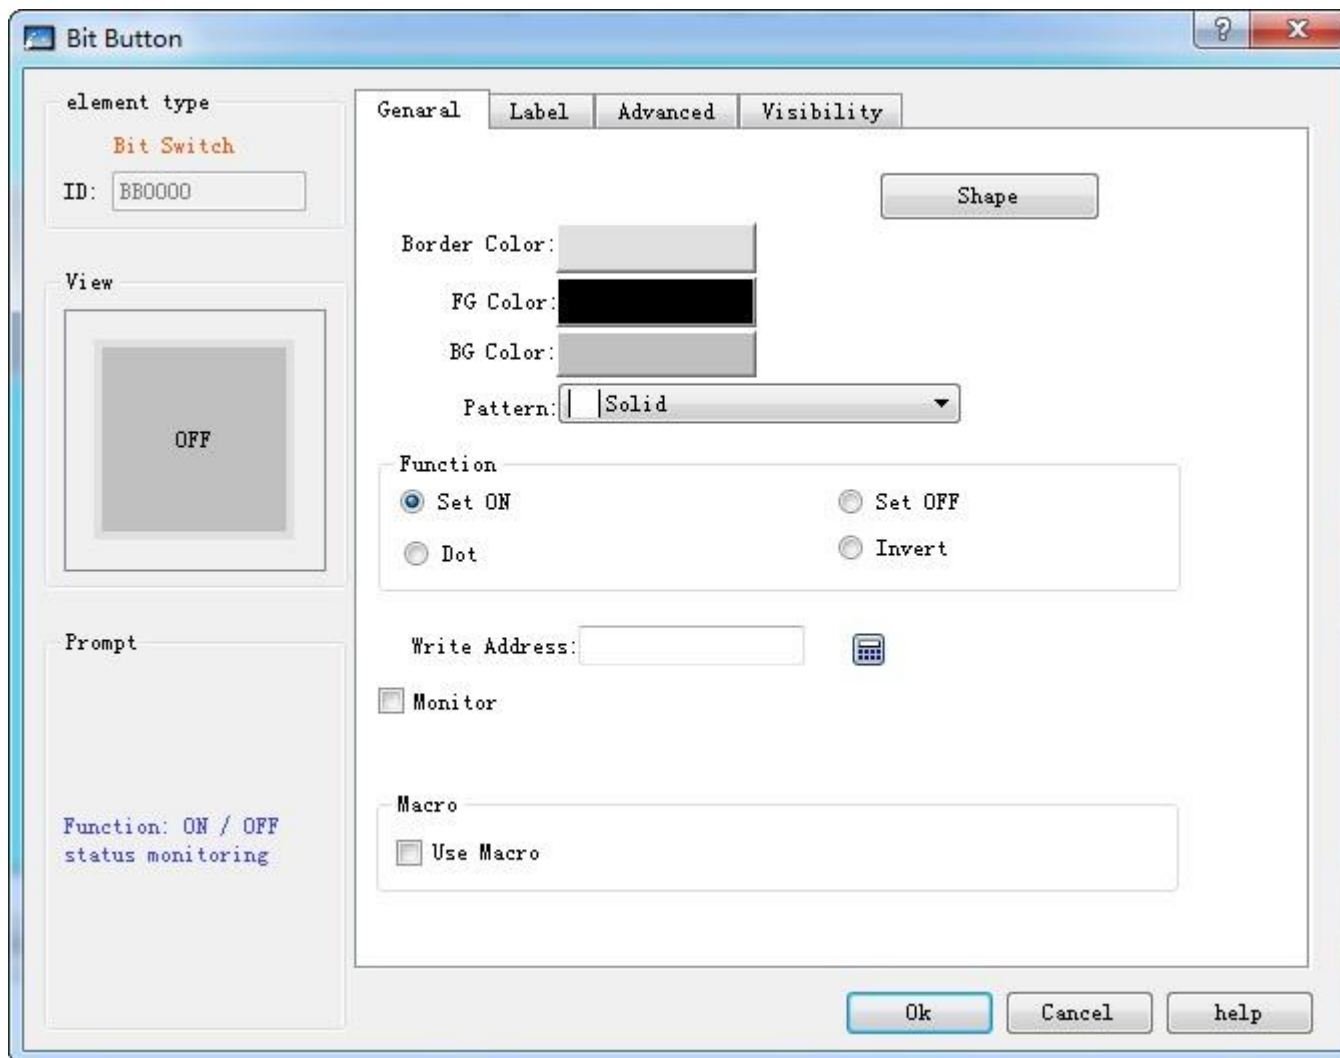

Figure 4-68 Bit Button dialog box
1. Click the Bit Button icon  on the toolbar to bring up a dialog box, which is for setting the properties of Bit Button, as shown in Figure 4-68: